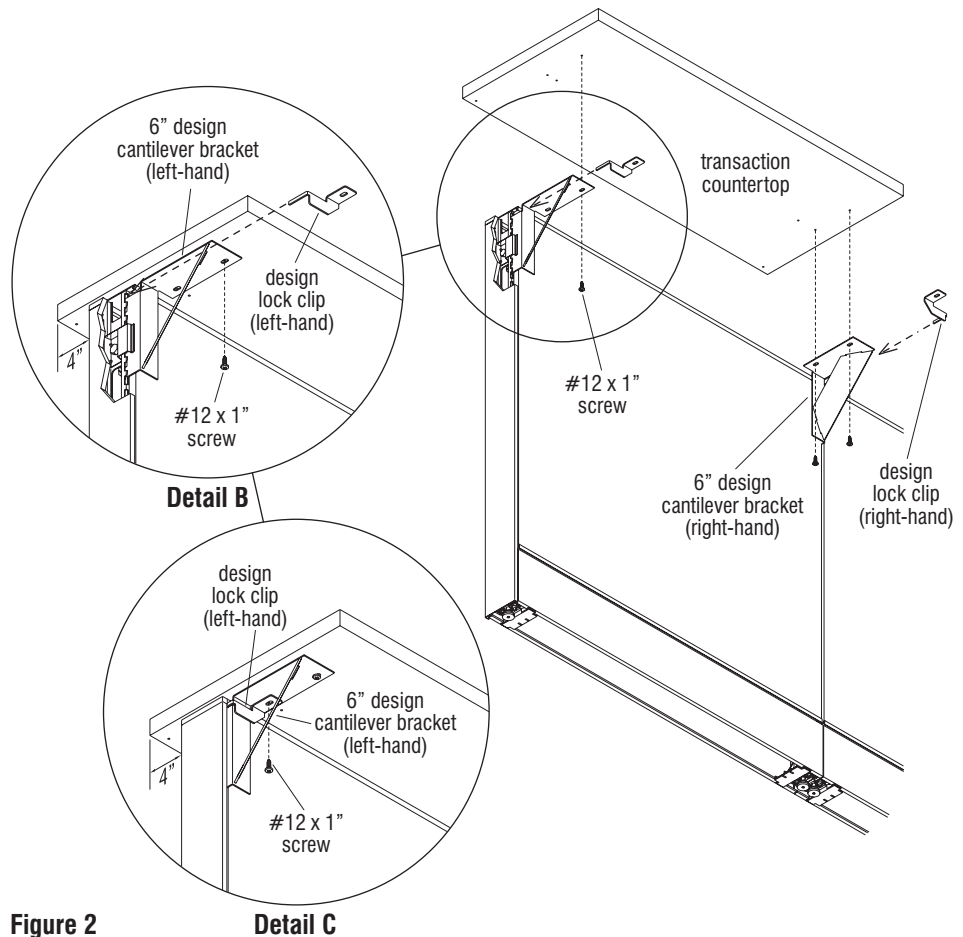

Figure 2
- After the cantilever brackets have been installed to the workstation side of the panel, position the transaction countertop onto the brackets as illustrated, with the smaller, 4" countertop overhang into the aisle side. Align mounting holes of the brackets with the corresponding pre-drilled holes in the underside of the transaction countertop. Using one #12 x 1" screw per bracket, at the front side of the bracket (hole closest the worksurface user), secure the bracket to the transaction countertop as illustrated (Figure 2 and Detail B).
- Position a design lock clip as illustrated (Detail B) and insert the thin prong end of the clip into the top panel notch, just above the top tooth of the left-hand design cantilever bracket. Fully inserted properly, the mounting hole of the lock clip will align over the unused mounting hole in the cantilever bracket. Insert and tighten the second #12 x 1" screw to secure the clip over the cantilever bracket, and to the transaction countertop (Figure 2 & Details B & C).
- Repeat step 4 above for the right-hand design lock clip to the right-hand design cantilever bracket. Check and assure that all four mounting screws are tight. The transaction countertop must be snug and no movement should be felt (Figure 2 & Details B & C).